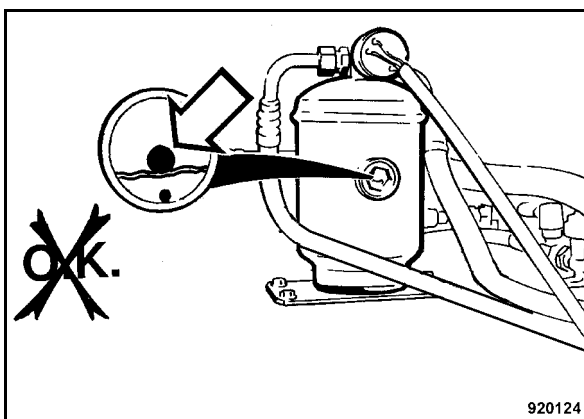

Fig. 149
- If the white float (Fig. 149) inside the inspection glass of the drier/collector unit floats at the bottom, inform the service department.